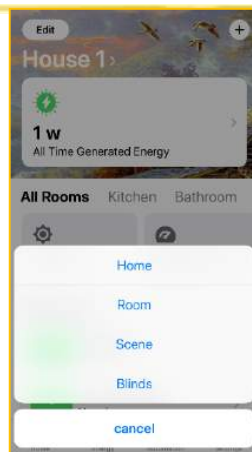

Figure 25
10.7.2. Select **Scene** from the menu options (Fig. 25).